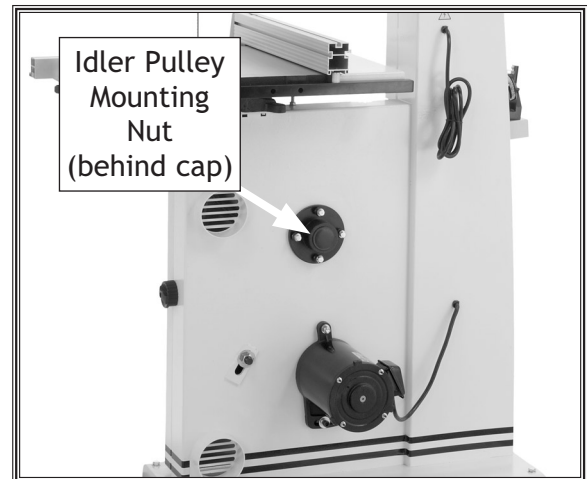

Figure 52. Location of idler pulley mounting nut.
3. Loosen the idler pulley mounting nut behind the cap shown in **Figure 52**.